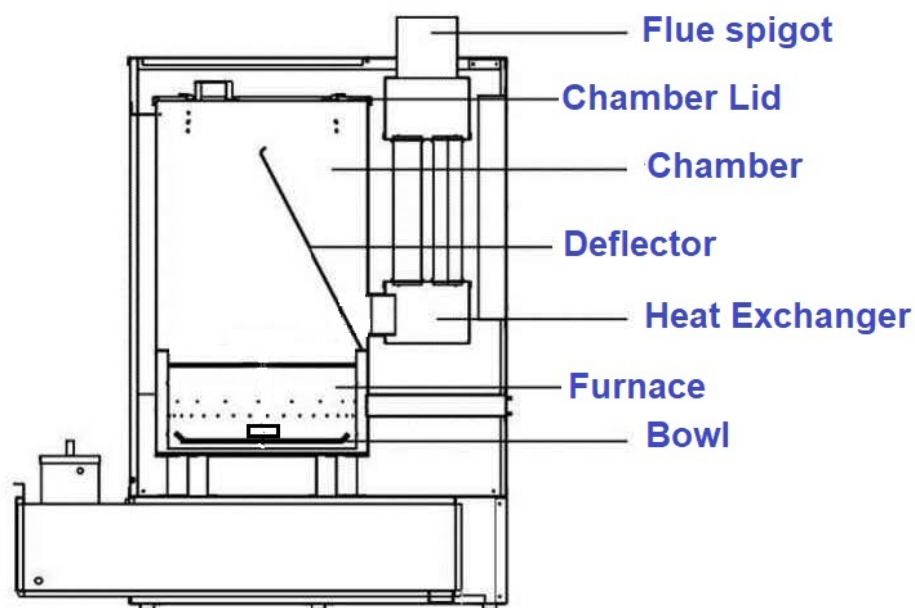

Fig. 3. Combustion chamber structure
- place the deflector inside the combustion chamber according to Fig. 3.,